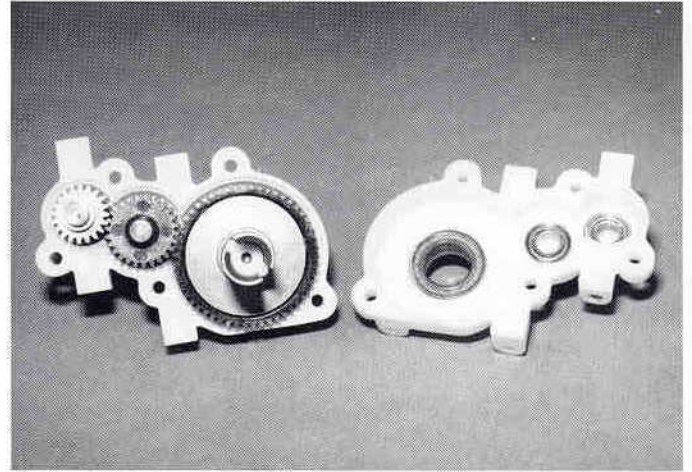

**Fig. 78**
□ **Figs. 78 & 79** Locate the #6570 idler gear and shaft from bag D and install it into the center bearing or bushing location in the right transmission case half. There is no right and left so the gear can go in either way. Fig. 79 shows the right hand case half with all three gears installed.